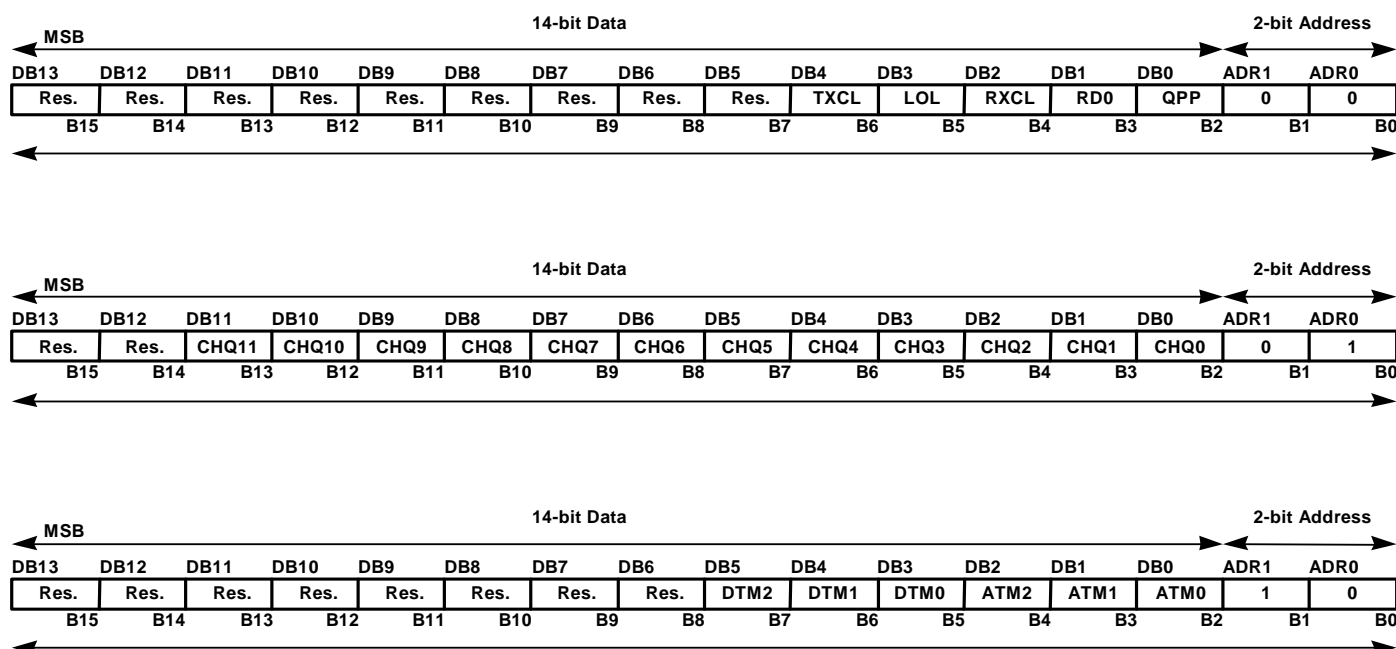

Figure 5. Register Organization
Figure 5 shows a register map. Table 4 through Table 6 provide detailed diagrams of the register organization: Table 4 and Table 5 outline the PLL configuration and channel frequency registers, and Table 6 displays the filter tuning and test mode register.
Each of the three registers is identically configured. Each is divided into a fourteen (14) bit data field and a two (2) bit address field. The 16 bits are input serially (see Figure 5) with the 14 data bits, most significant bit (DB13) first followed by the two address bits, most significant bit (ADR1) first. The last 16 bits clocked into the ML2723 will be loaded into the specified register. Loading less than 16 bits into any register will cause unpredictable device functionality.